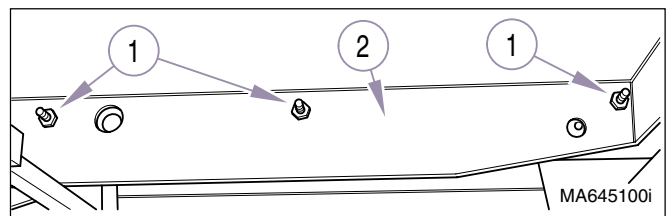

Figure 4-36. Foot Extension
- (8) Drill out the six pop rivets that hold slides to foot section weldment (7) and remove the foot section (7).
- (9) Remove the nuts and lockwashers (1, Fig. 4-36) that secure the slides to the seat weldment (2) and remove the slides and the foot section weldment.
- (1) Install the foot slides onto the seat weldment (3, Figure 4-36) and secure with the lockwashers (2) and nuts (1).